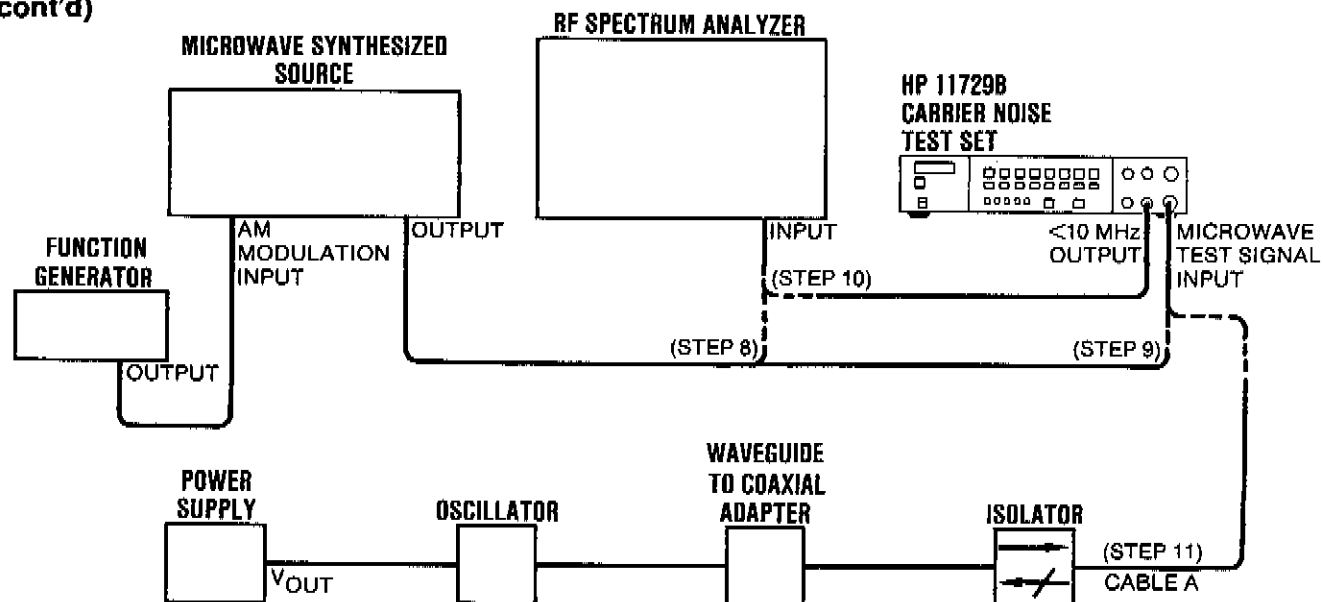

Figure 4-4. AM Noise Floor Test Setup
1. Connect the equipment as shown in Figure 4-4.